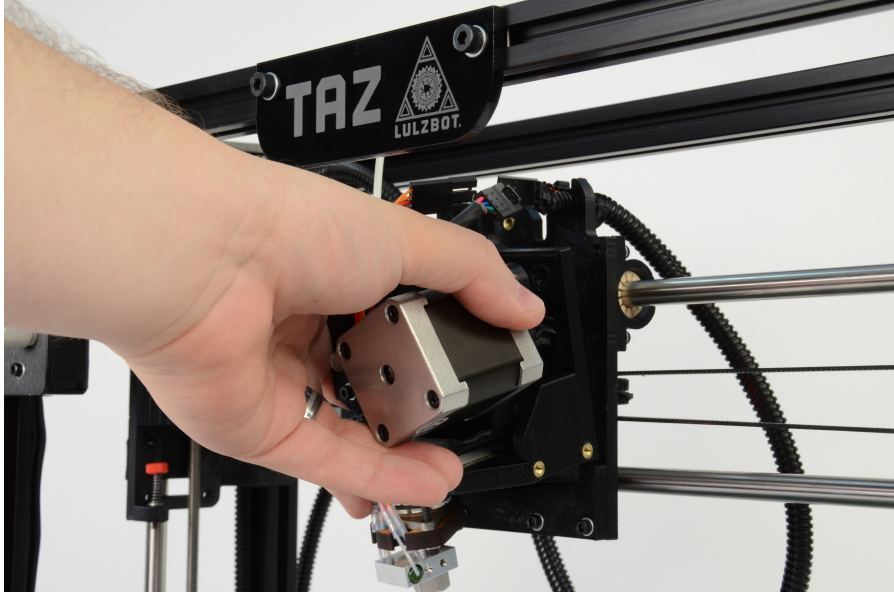

Figure 1.12: Mount the extruder tool head
9. Move the X axis carriage to the center of the smooth rods. If you have not already done so, remove the foam from between the X axis carriage and the left hand X axis end. Locate and remove, with the 2.5mm hex driver, the tool head 3mm screw in top center of the X axis carriage (Fig. 1.11, page 24). Place the extruder tool head mount onto the X axis carriage bottom first. The extruder mount will slide into the bottom portion of the carriage and self center (Fig. 1.12, page 25). Use the included 2.5mm driver and the previously removed 3mm screw to secure the extruder tool head onto the X axis carriage.